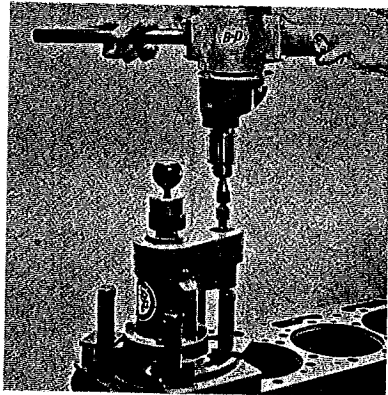

Fig. 9 Starting the Bore Cut
8. Remove the feeler gauge from below cutter (13) and pull up on needle valve knob to return cutter to top position. Turn needle valve to right to close valve to hold it in "UP" position.
9. Chuck the 1/2 inch universal drive adapter (40) in a 1/2 or 3/4 inch heavy duty (10 amp. or more) hand drill.
10. With the hand drill on the universal drive adapter (40) commence boring the machine freewheels (approx. 2 minutes). About half-way down during the cut the cutter begins cutting out the old counterbore ledge. The operator should have a firm grip on the hand drill to be prepared for the increased load on the hand drill from the added metal being cut. Stop immediately when the cutter freewheels or some chatter may occur. (See Fig. 9).